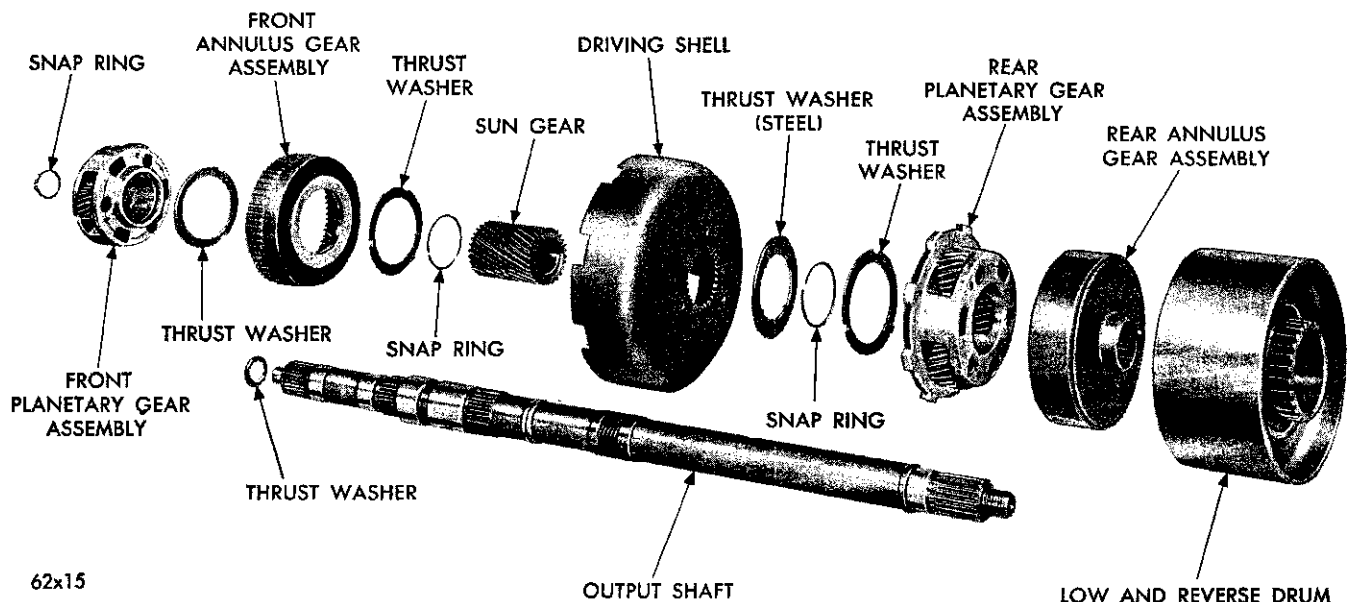

Fig. 78—Planetary Gear Assemblies, Sun Gear, Driving Shell, Low and Reverse Drum and Output Shaft (Disassembled)
- (1) Remove the thrust washer from the forward end of the output shaft (Fig. 78).
- (2) Remove the snap ring from the forward end of the output shaft, then slide the front planetary assembly off the shaft.
(3) Slide the front annulus gear off the planetary gear set (Fig. 78). Remove the thrust washer from the rear side of the planetary gear set.
(4) Slide the sun gear, driving shell and rear planetary assembly off the output shaft.
(5) Lift the sun gear and driving shell off the rear planetary gear assembly. Remove the thrust washer from inside the driving shell. Remove snap ring and steel washer from the sun gear (rear side of driving shell) and slide the sun gear out of the shell. Remove the front snap ring from the sun gear if necessary. Note that the front end of the sun gear is longer than the rear.
(6) Remove the thrust washer from the forward side of the rear planetary gear assembly, remove the planetary gear set from the rear annulus gear.
Refer to Figure 78 for parts reference.
(2) Apply a coat of lubricant on the input to output shaft thrust washer (Fig. 78), and install washer on the front end of the output shaft.